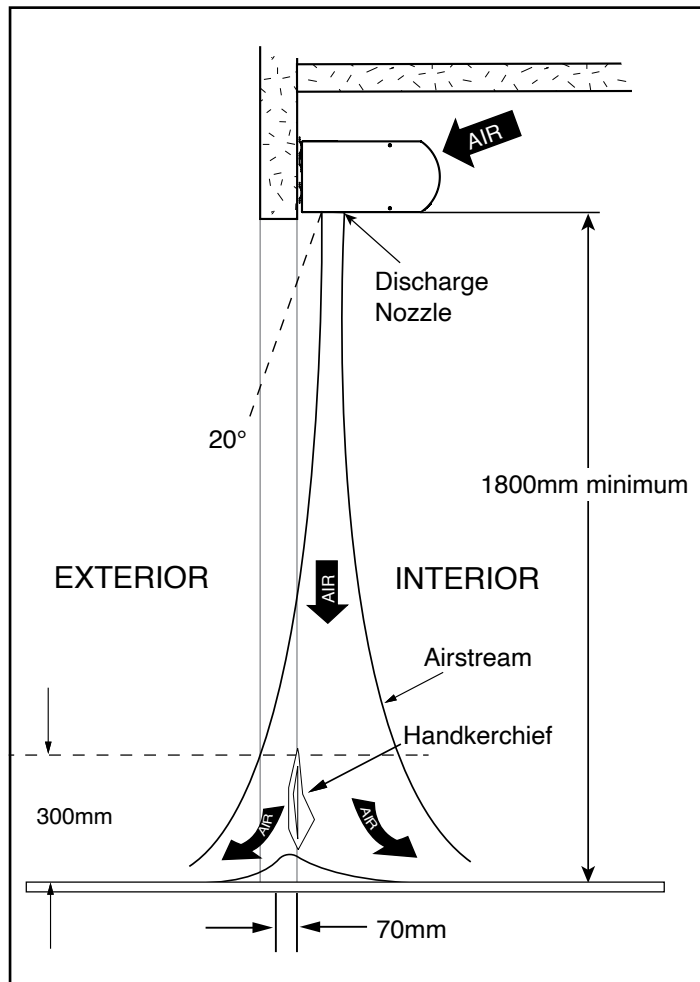

Figure 9 - Air Stream Adjustment
2. Find the air stream split location. Hold a handkerchief by its corners, approximately 300mm above the floor. Gently move the handkerchief back and forth in the doorway. Make sure the air is being directed to both the inside and the outside. **See Figure 9.**